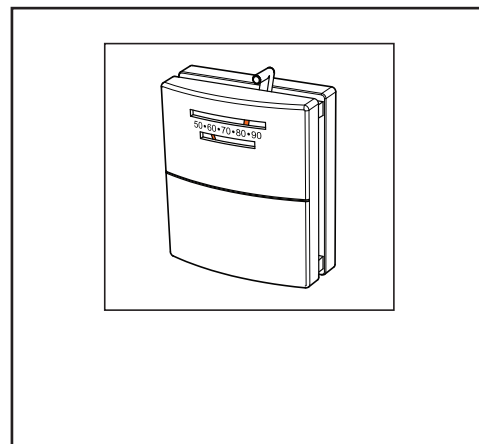

Figure 40.2
1. A low voltage thermostat is required to operate this pellet appliance. You may use the included wall mount thermostat (**Figure 40.2**) or purchase an optional programmable thermostat or remote control. It is equipped with an adjustable heat anticipator. The current rating is .05 amps. The anticipator needs to be adjusted to the lowest setting available.